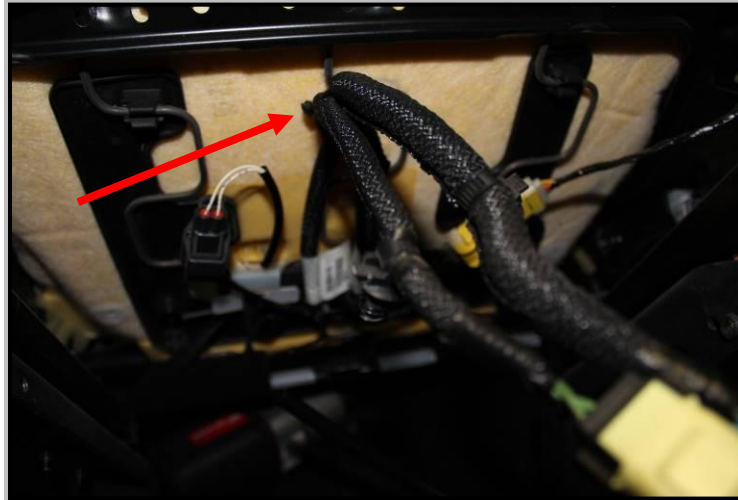

Figure 13
- 2-N) If equipped, zip tie the cables for the yellow plug(s) to the bottom of the passenger seat as shown in **Figure 13**. Do not completely tighten the zip tie (leave some slack for cables to move).